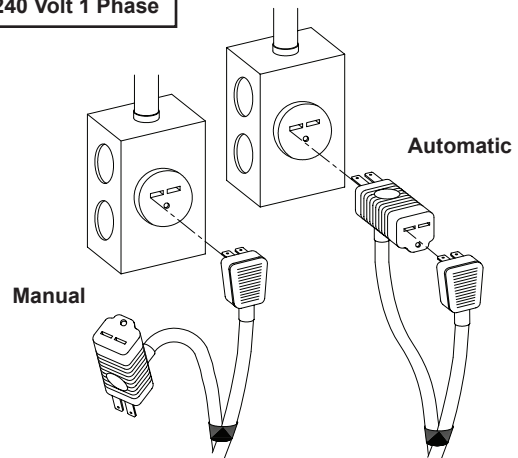

FIGURE 3
- 6.) Figure 3 shows a typical connection for pumps with the wide angle float and piggy-back plug. For manual and automatic operations.
**Pumps that have had the oil drained from the Motor Housing** - Apply pipe sealant to pressure gauge assembly and tighten into pipe plug hole (See Figure 3). Pressurize motor housing to 10 P.S.I. Use soap solution around the sealed areas and inspect joints for "air bubbles".
**Pumps that have NOT had the oil drained from the Motor Housing-** The pressure test may be done with the oil at its normal level. Remove pipe plug (39) from motor housing (6). Apply pipe sealant to pressure gauge assembly and tighten into hole (see Figure 3). Pressurize motor housing to 10 P.S.I. Use soap solution around the sealed areas above the oil level and inspect joints for “air bubbles”. For sealed areas below the oil level, leaks will seep oil. If, after five minutes, the pressure is still holding constant, and no “bubbles”/oil seepage is observed, slowly bleed the pressure and remove the gauge assembly. If the pressure does not hold, then the leak must be located and repaired.
**Seal Chamber (DS Units Only)** - Set unit on its side with fill plug (44) downward, remove plug (44) and drain all oil from seal chamber. Apply pipe sealant to pressure gauge assembly and tighten into hole in outer seal plate (29). Pressurize seal chamber to 10 P.S.I. and check for leaks as outlined above.